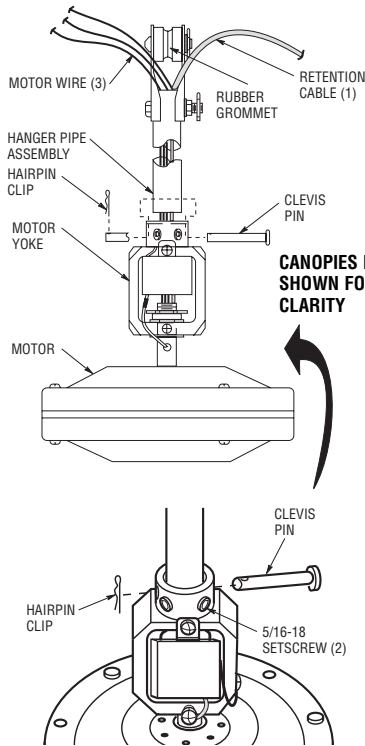

Figure 2
2. Pass the motor wires and retention cable through the hanger pipe assembly and seat the hanger pipe in the motor yoke. (See Figure 2.)
- 3. Align the clevis pin holes in the hanger pipe with the holes in the motor yoke. Install the clevis pin and secure with the hairpin clip (Figure 2). The clevis pin must go through the holes in the motor yoke and the holes in the hanger pipe. Push the straight leg of the hairpin clip through the hole near the end of the clevis pin until the curved portion of the hairpin clip snaps around the clevis pin. The hairpin clip must be properly installed to prevent the clevis pin from working loose. Pull on the rubber grommet to make sure the clevis pin is properly installed.
- 4. Install and securely tighten the two 5/16-18 setscrews in the motor yoke against the hanger pipe using the allen wrench supplied. (Figure 2.)